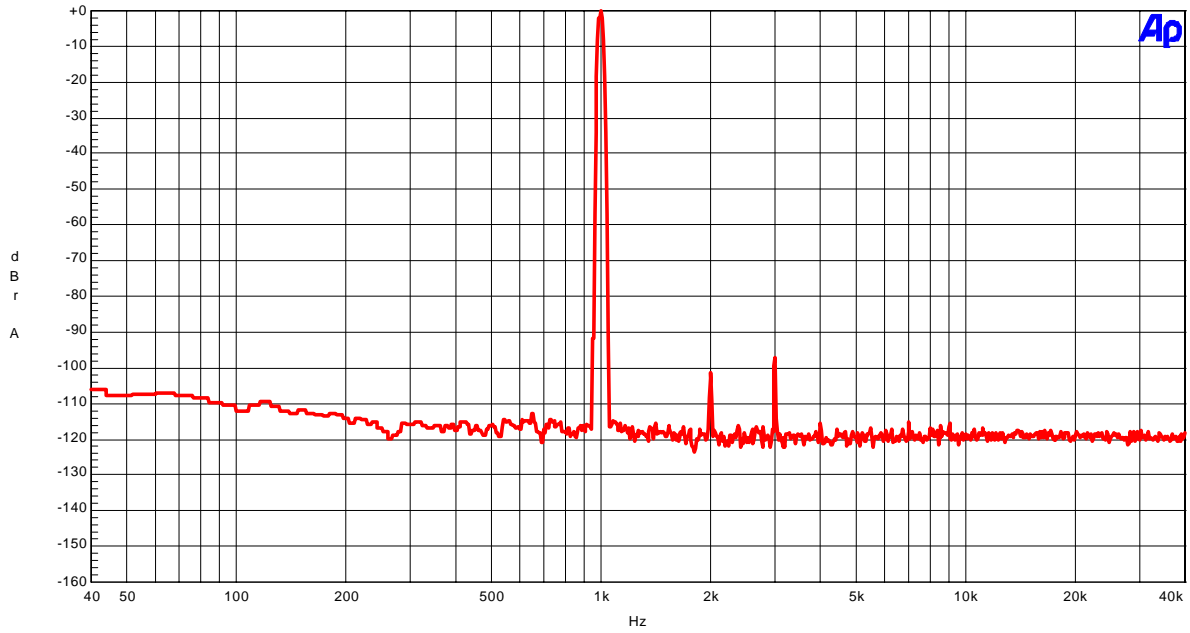

Figure 15. FFT (1kHz, 0dBFS input, Notch=OFF)
- Figure 15. FFT (1kHz, 0dBFS input, Notch=OFF)